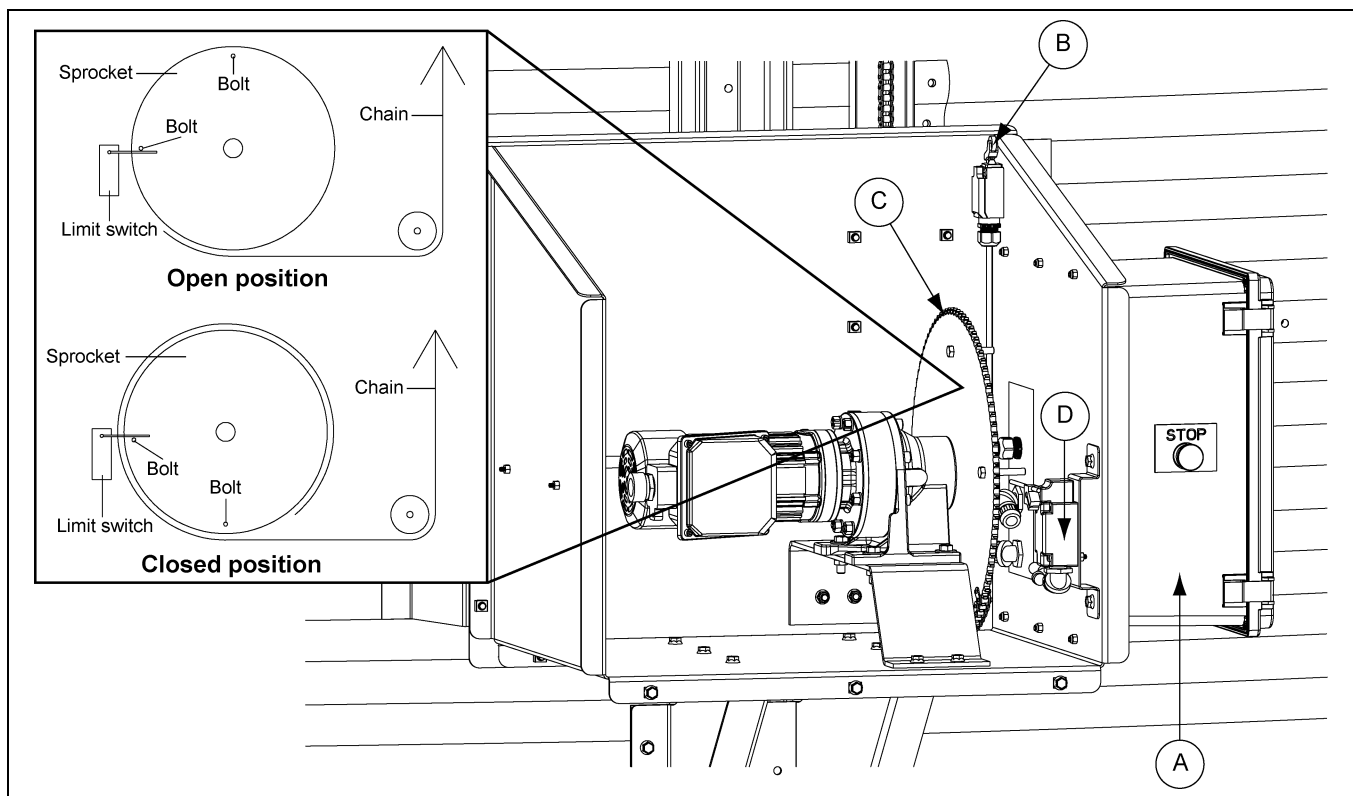

Figure 4H
1. Field drill two (2) holes in bottom of chute position controller electrical box (A) large enough to accommodate cables for power and Autoflow controls. Refer to wiring diagrams on Pages 19 and 20 to feed conduit for wiring to the main power breaker and Autoflow controls. (See Figure 4H.)
**NOTE:** For system to function when testing travel with the cover removed, the tamper switch (B) must be depressed.
- b. Ensure the sprocket (C) is in the open position when beginning testing. Use the manual dump chute switch located on the main control panel to move between the open and closed positions. Set the sprocket travel to the closed position on the Autoflow control and observe the bolts in the sprocket (C) travel from the open (clockwise) position to the closed (counterclockwise) position to the limit switch (D) as shown in Figure 4H.